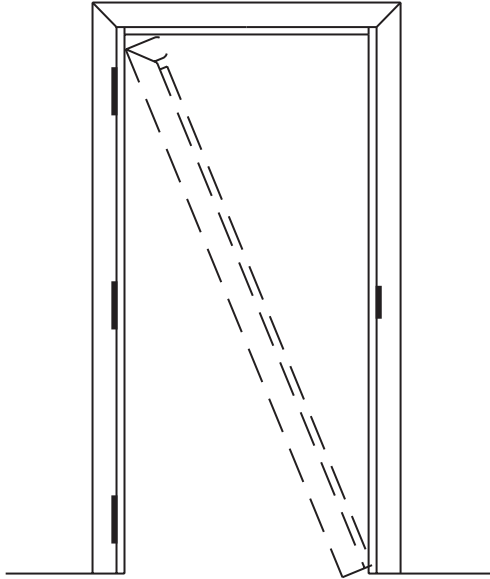

Figure 30 – Align corner gussets
11.3 Install jambs and header onto wall per manufacturer’s instructions, taking care to align corner gussets (if so equipped). See Figure 30.